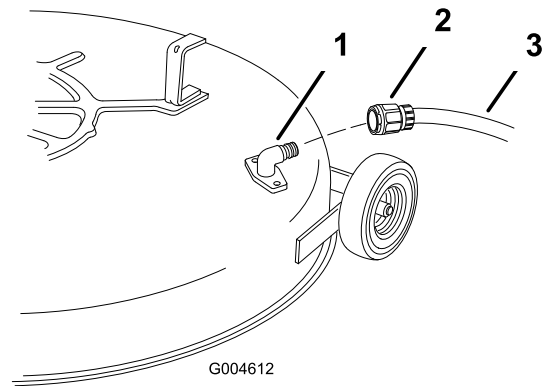

Figure 50
5. Attach the coupling to the end of the mower washout fitting and turn the water on high (Figure 50).